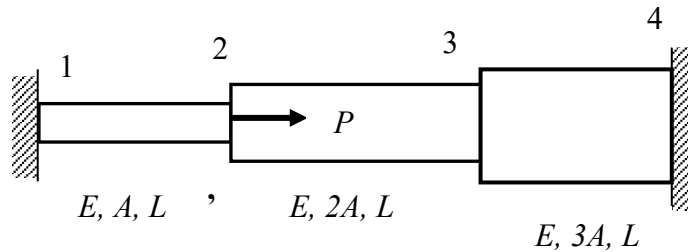

Figure 6
- (4). (a). Derive the element stiffness matrices and global matrix in terms of E , A and L for the three bars assembly which is loaded with force P , and constrained at the two ends as shown in **Figure 6**.